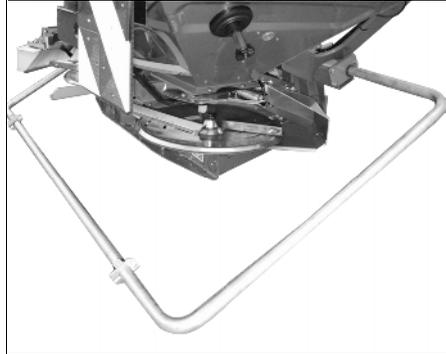

Fig. 52
- Fold upwards the guard tube (Fig. 52).